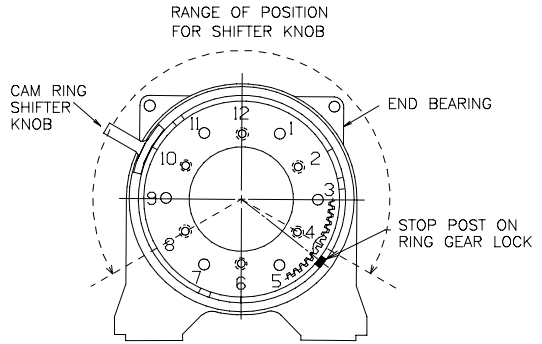

FIGURE 9
5. Determine position shifter knob needs to be for your application. **Note:** Shifter knob cannot be positioned too low or it will interfere with the feet on the Gear End Bearing (see Range of Position in Figure 9).